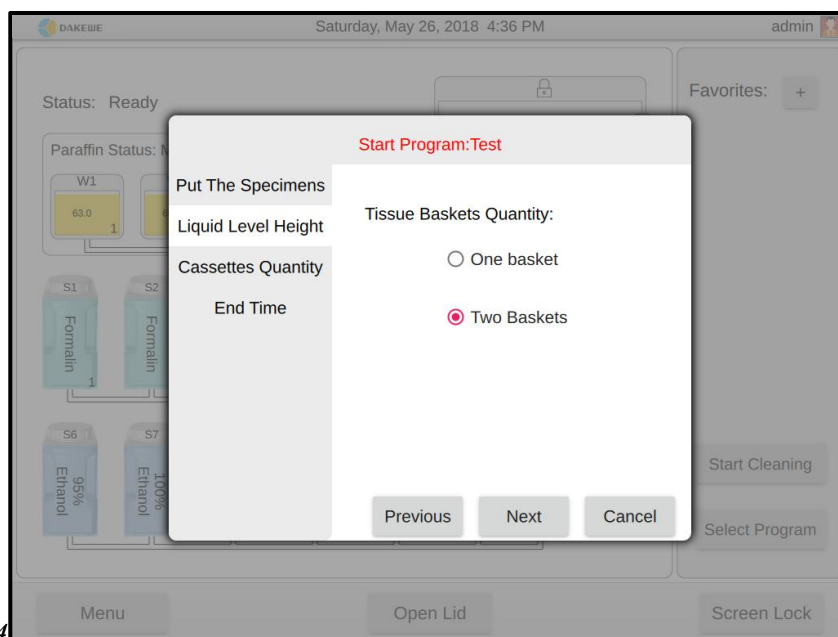

Figure 74
- Select the number of tissue sample baskets (*Figure 74*).